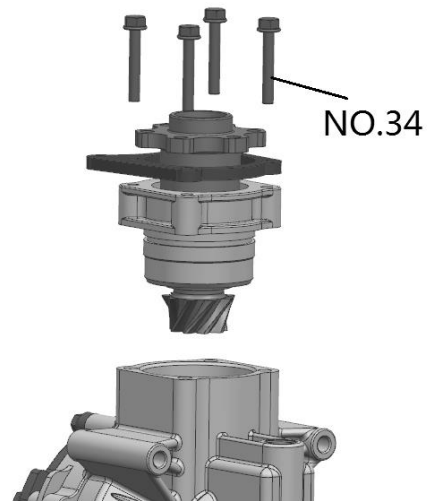

Fig 19
10. Install the pinion gear assembly. Torque the bolts in a criss cross pattern to **25-30Nm**. → Fig 19